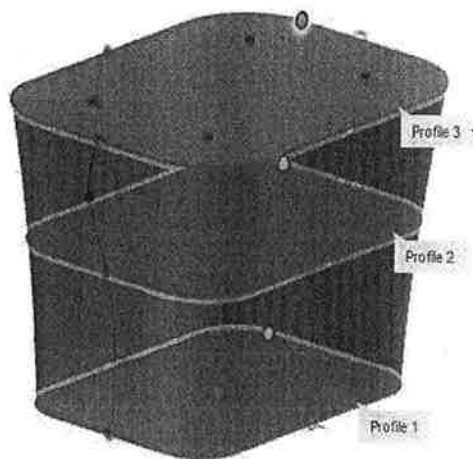

Figure 12-4
3. Select the *Profile* references in the design. The profile selection is immediately active. Once at least two profile references are selected, a preview of the geometry is displayed in the graphics window, as shown in Figure 12-4.